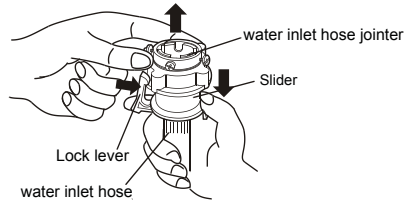

Figure 1
1. Press the lower end of the lock lever and push down the slider. Take off the water inlet hose jointer from the water inlet hose component. See to Figure 1.
- Turn the inner tub, you will find a softener inlet as the figure 1, open the cover, put the softener into the inlet as the figure 2. Before washing, close the cover and the softener will drop into the inner tub during the last time rinsing.